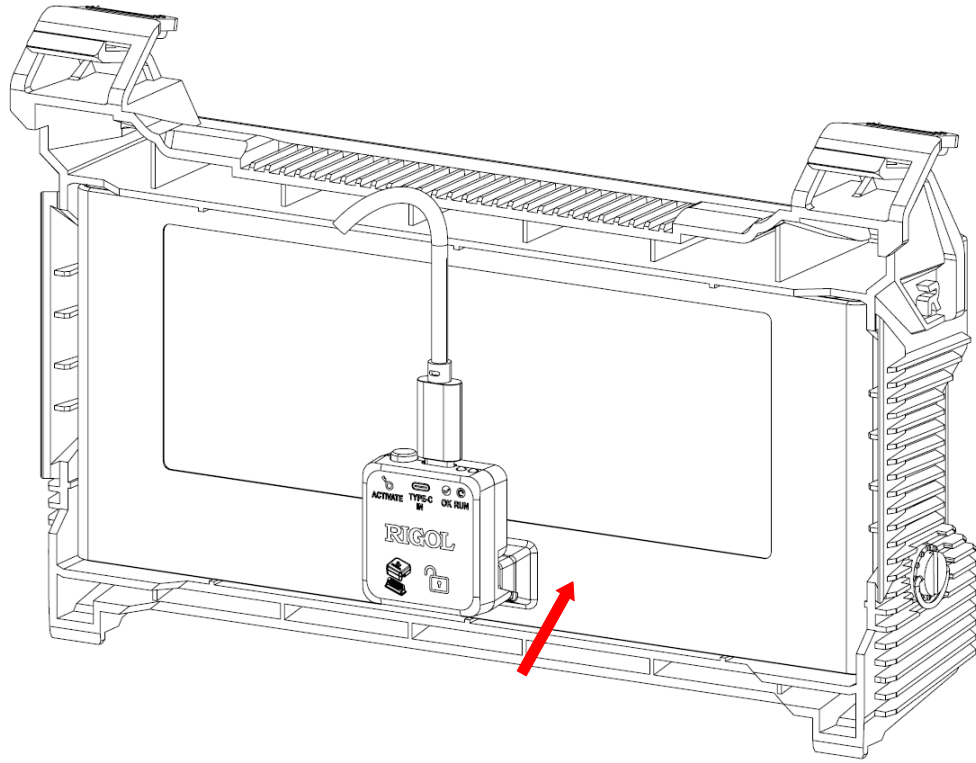

Figure 6.3 Connect the Activator
- 1. Connect the activator to the battery holder connector correctly as shown in *Figure 6.3*.
- 2. Use the USB Type-C cable to connect an adaptor (12 V/3 A) that conforms to the Power Delivery (PD) 3.0 Specification and then apply the AC power source. You can also connect a mobile power source (12 V/3 A).